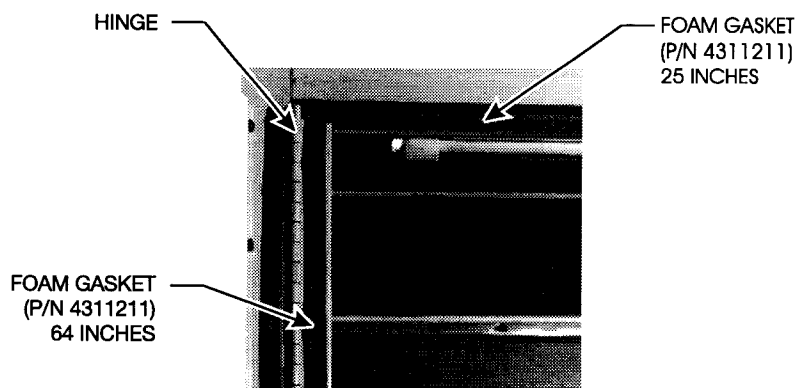

Figure 5
- a. **TOP**- Starting at the far right side, apply 25 inches of foam gasket across the width and around the corner to the hinge over the existing seal. **See Figure 5.**
- b. **HINGE SIDE**- Apply 64 inches of foam gasket to the **RIGHT** of the hinge, flush with the right edge of the hinge leaf. **See Figure 5.**